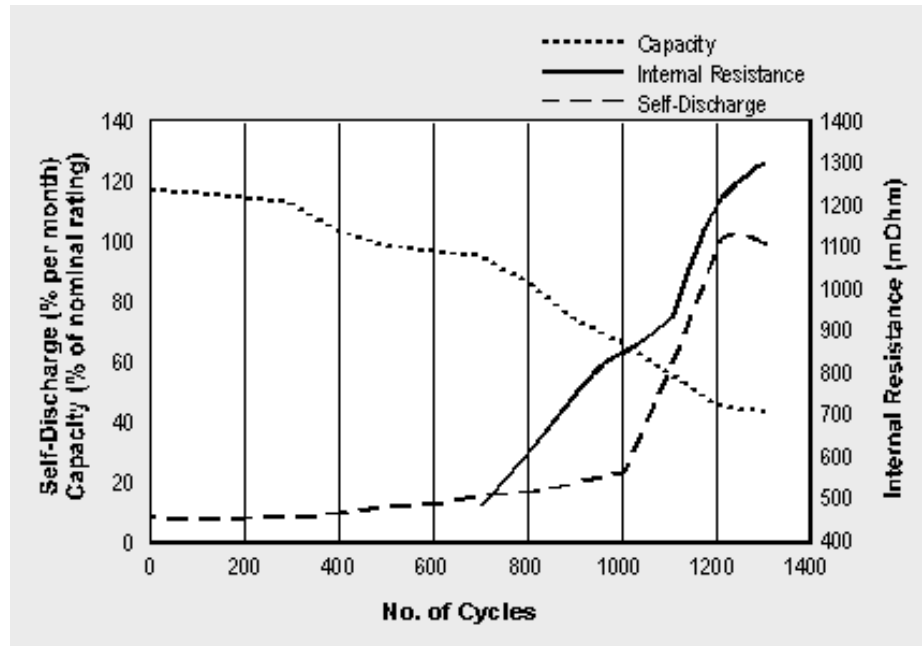

Figure 8-3: Characteristics of a NiMH battery.
**The NiMH Battery** — Figure 8-3 examines the NiMH, a battery that offers high energy density at reasonably low cost. We observe good performance at first but past the 300-cycle mark, the performance starts to drift downwards rapidly. One can detect a swift increase in internal resistance and self-discharge after cycle count 700.